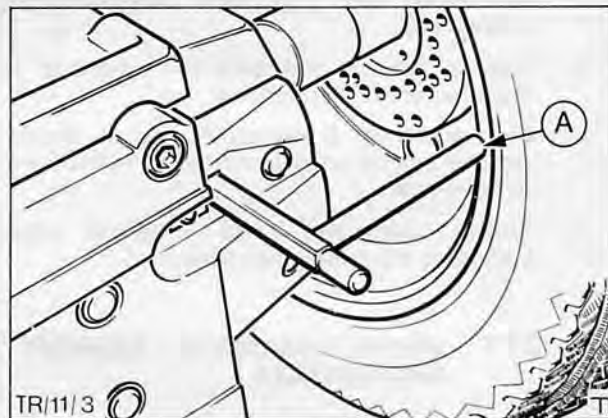

Fig. 3. Wheel in position on a typical off the vehicle wheel balancer
3. Locate wheel and hub assembly on balance machine positioning on spindle so that wheel rim just touches setting rod. Fig. 3. Lock wheel and hub adaptor onto spindle.